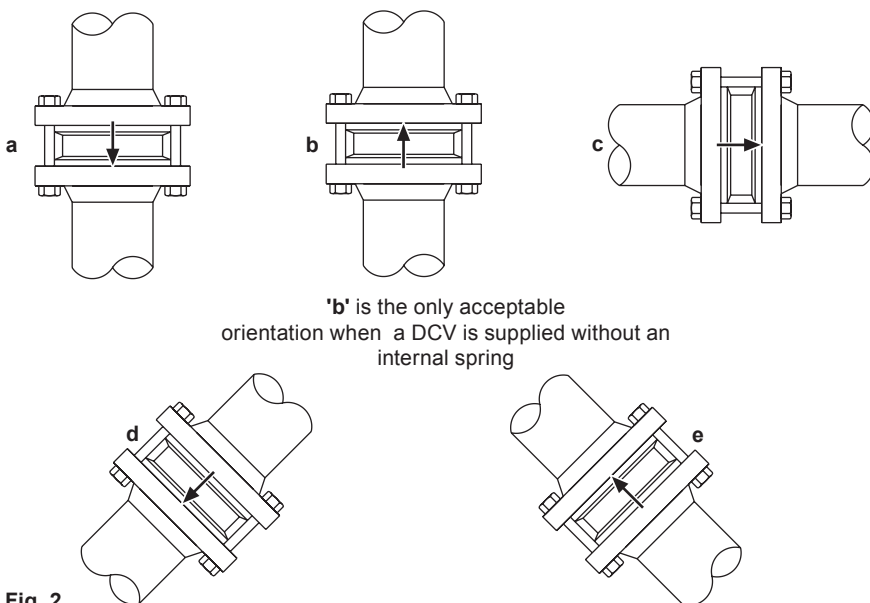

Fig. 2
- 3.5** Disc check valves simply fit between two pipe flanges (see Figure 2). Standard gaskets are used either side of the valve together with longer bolts or studs. **Note:** flanges, bolts (or studs), nuts and joint gaskets to be provided by the installer. Normal sensible flange bolting practice should be followed e.g. torque tightening the bolts in opposite sequence.